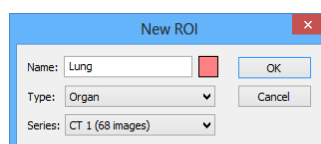

Figure 221 – New ROI dialog
2. The **New ROI** dialog for defining the main properties of the new ROI is then displayed (see Figure 221).